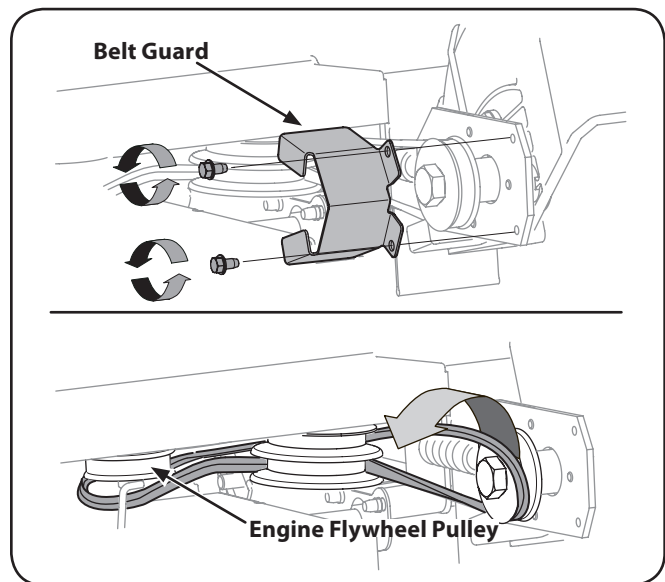

Figure 7-2
3. Remove the spindle sheaves belt guard by removing the two self-tapping screws which secure it to the blade plate assembly. See Figure 7-2.
4. Carefully remove the belt from off of the pulleys, again making sure to note the orientation of the belt. Discard the belt. See Figure 7-2.
NOTE: Make certain that the "V" side of the belt is seated into the top pulley and the flat side of the belt is seated into the bottom pulley. See Figure 7-2.